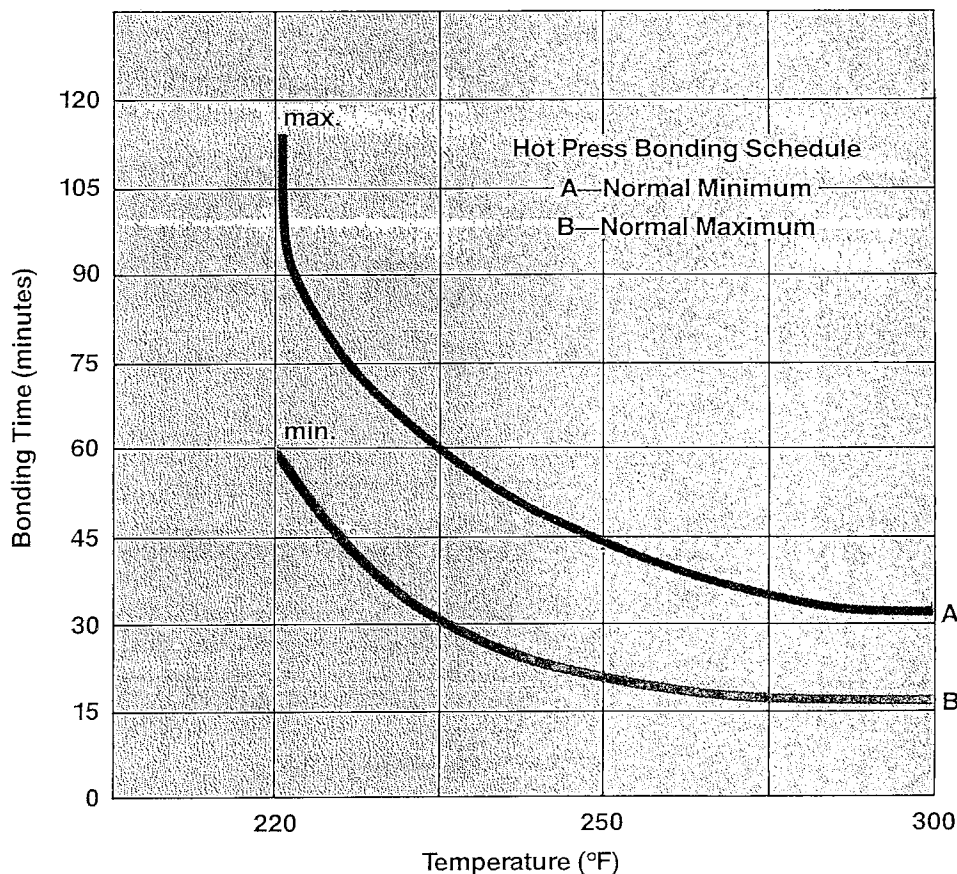

Figure 2
2. Place the adhesive coating part in a hot press for a time and temperature following a schedule from Figure 2.
Choose a time and temperature schedule from Figure 2, based on the heat capacity of the materials and the size of the assembly.